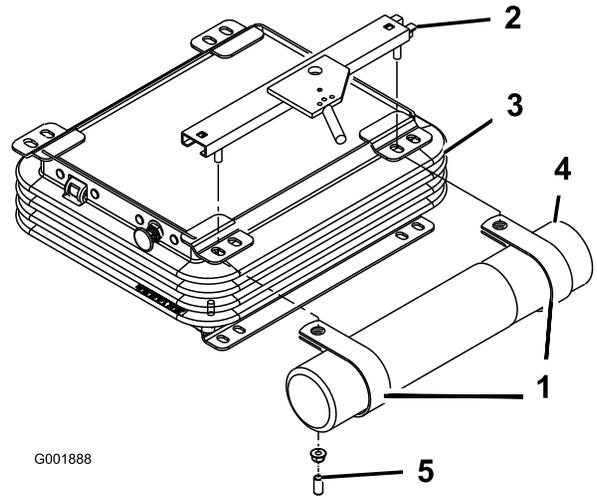

Figure 7
2. Remove the 2 nuts and vinyl caps (if previously installed) securing the upper seat bracket to the left side of the seat suspension (Figure 7).
3. Loosely mount the R-clamps to the seat bracket studs with the 2 nuts previously removed (Figure 7).
4. Install the manual tube into the R-clamps and tighten the nuts (Figure 7).